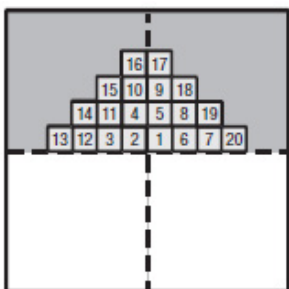

Figure 3
- After determining the layout and snapping the center line, spread adhesive and install flooring as outlined below using the dry-to-touch or wet-set application method. (See Figure 3)
- Lay tiles from the center of the room in a pyramid fashion while working towards the walls, as shown in Figure 3. The dry, tacky adhesive makes it possible to work on top of the material without compromising the installation.